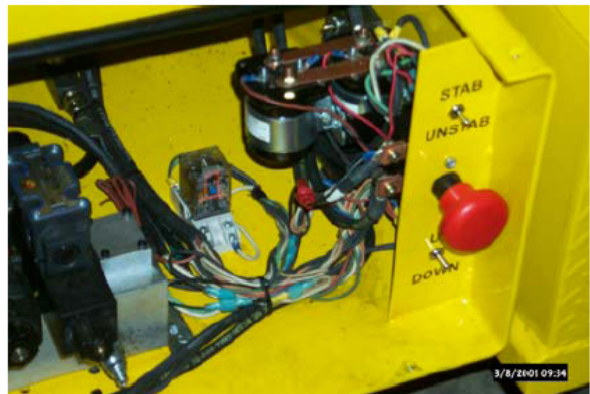

Figure 6. Controls
4. If not assembled before shipment, connect cable to control console provided and install console on platform railing. Pull emergency stop button if it has been depressed (Figure 6).
6. Pull emergency stop button on lower control station if it has been depressed (Figure 6).